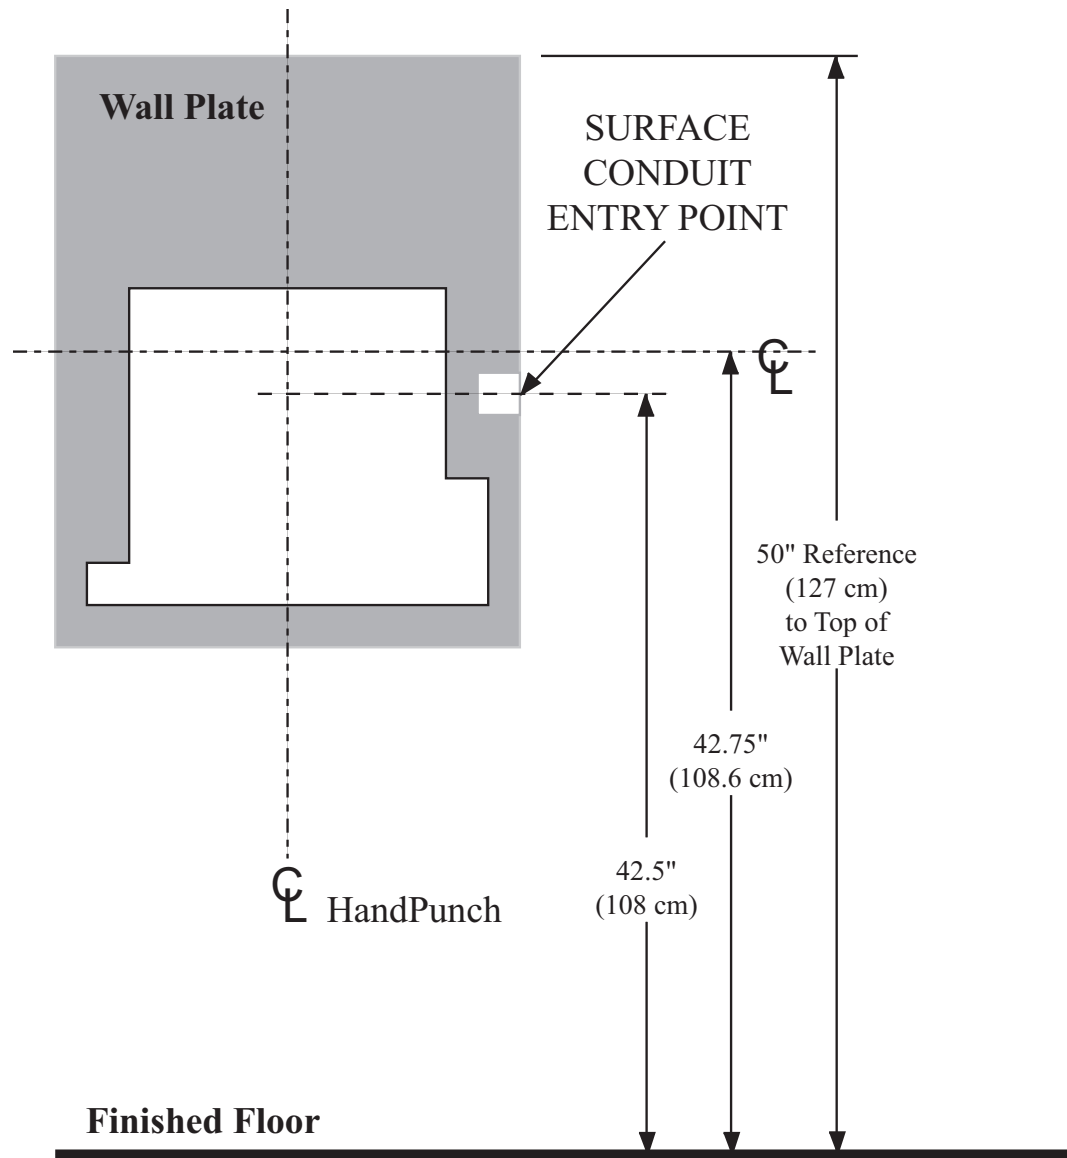
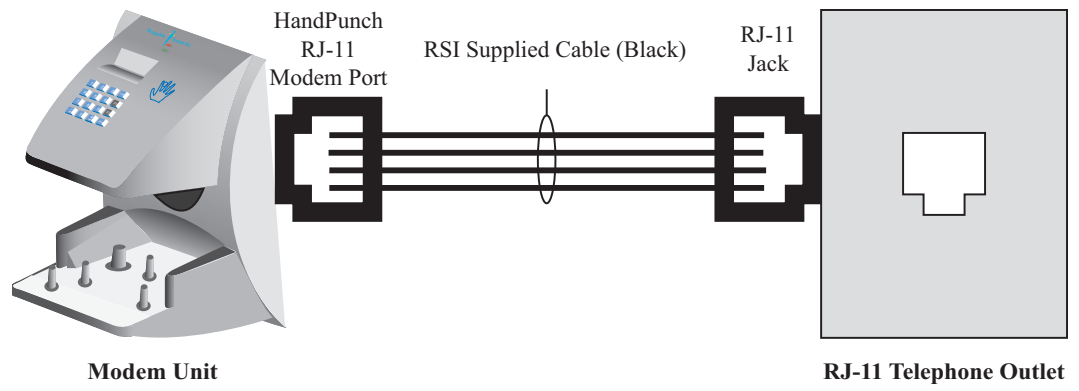

Figure 3-2: HandPunch Wire Routing Layout
Figure 4-4: Host PC to HandPunch Modem Connection
Before you begin installation, check the site blueprints, riser diagrams, and specifications for important information about HandPunch location and for other systems that connect to the HandPunch. Look for any existing wall preparations and wiring that other contractors may have installed for the HandPunch. A wire routing layout diagram (see Figure 3-2 on page 14) is provided to assist in planning wire routing.
To make the modem connection, a telephone jack must be installed on or in the wall behind the modem HandPunch terminal. Position the RJ-11 jack location using the template provided in this manual (see Figure 3-2 on page 14). The short black cable provided with the modem HandPunch connects the terminal to the telephone jack. Figure 4-4 on page 18 a wiring diagram for a modem to host computer connection.
1. Refer to Figure 3-2 on page 14 for a template diagram to assist in routing wiring.
Figure 4-4 on page 18 provides a Host PC to HandPunch Modem Network wiring diagram (Modem wiring is a HandPunch option).